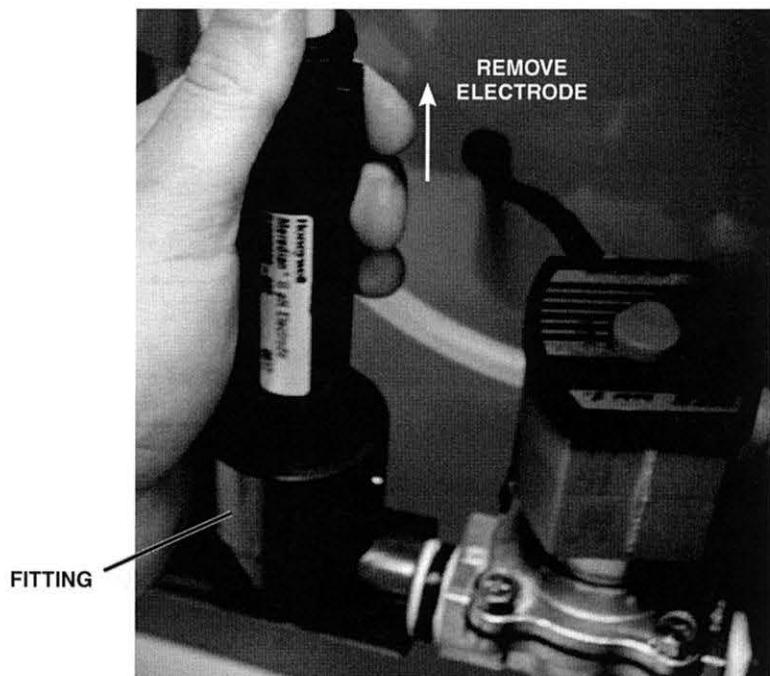

Figure 29. Removing Electrode Housing from the Fitting
D. Pull the electrode housing straight up and out of the fitting, as shown in figure 29.